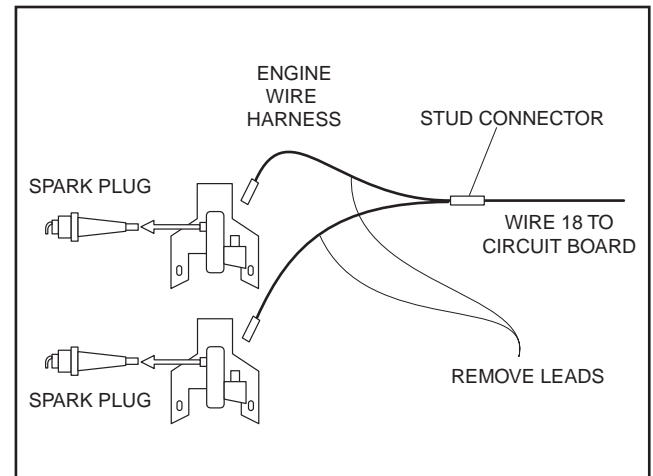

Figure 32. Engine Ground Harness
11. Disconnect the engine wire harness from the ignition magnetos (Figure 32).